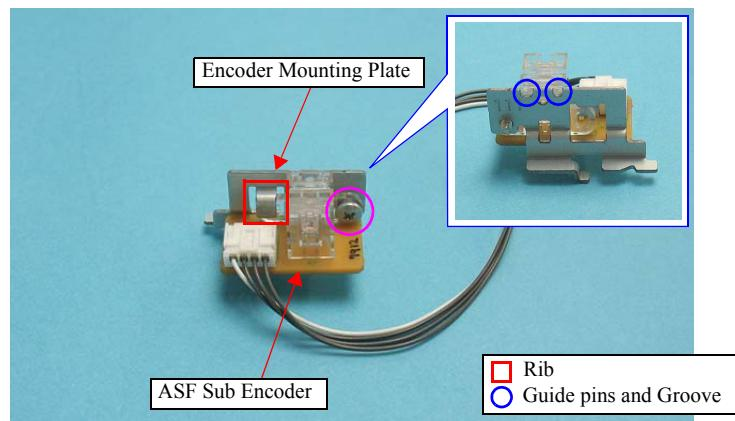

Figure 4-170. Removing the ASF Sub Encoder (2)
- When installing the ASF Sub Encoder to the Encoder Mounting Plate, insert the two guide pins of the ASF Sub Encoder into the grooves of the mounting plate as shown in Figure 4-170.